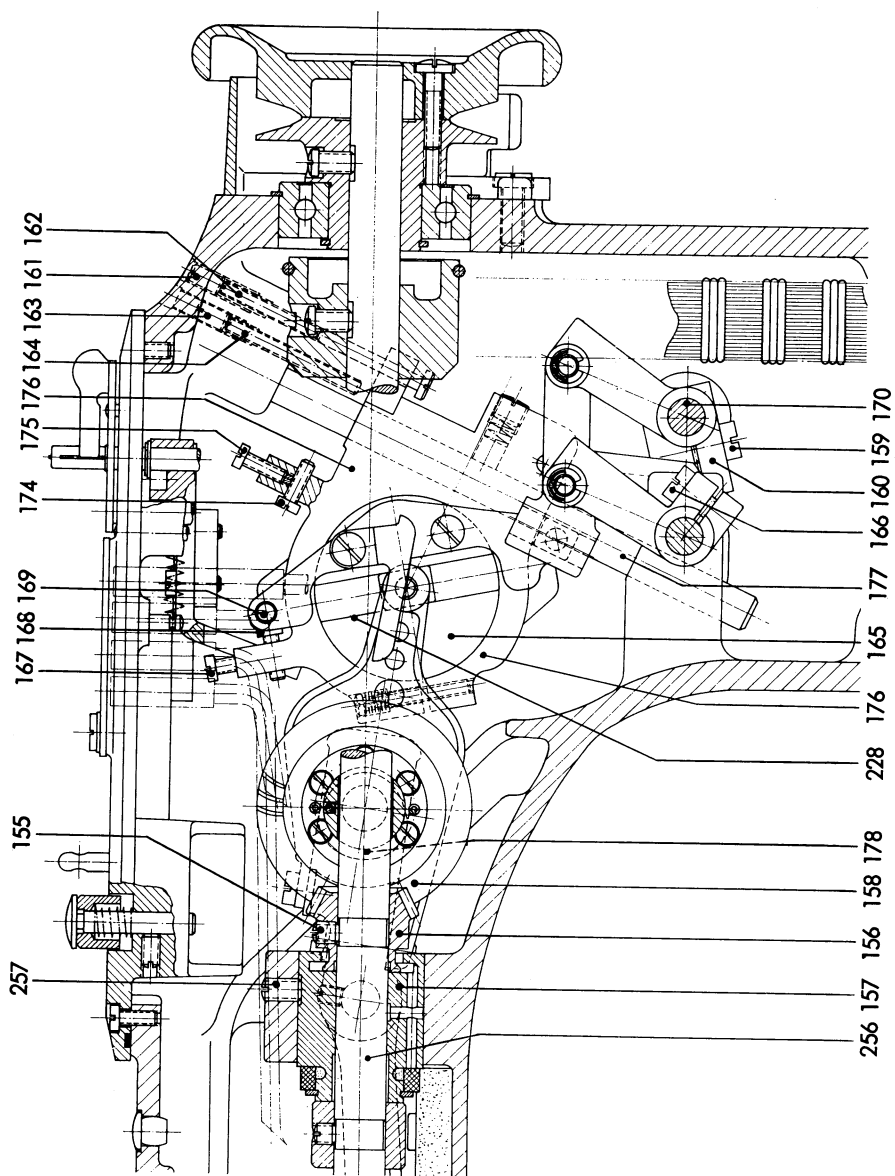

Fig. 26
4. Loosen thumb screws 155 (fig. 26), hold in position the bevel gear 156 and, by turning the handwheel, set the arm shaft so that the needle oscillates as explained in the preceeding description.
a) Adjusting the maximum throw width (fig. 26)
To set needle zero position **on the right**, shift stitch position regulator lever 84 (fig. 15) on "R" up to the stop and lift eccentric 178 (fig. 26) to its **topmost point** by turning the handwheel in the direction of rotation.
To correct this adjustment for the needle position on the right, remove counter screw 163 (fig. 26) and turn, as required, stop screw 164, to correct it for the needle position on the left, remove screw 161 and turn the stop screw 162 as required.
With the stitch position regulator lever 84 (fig. 15) set on "M" and stitch width regulator lever 80 set on "0", adjust the zigzag coulisse 165 (fig. 26) so that by turning the machine the needle bar makes no lateral movement.
2. Loosen thumb screws 166 and 167 (fig. 26),
To make an adjustment, loosen thumb screw 159 (fig. 26) and turn the block 160 on the axle 170 as required. Retighten the thumb screw 159 after having completed the adjustment.